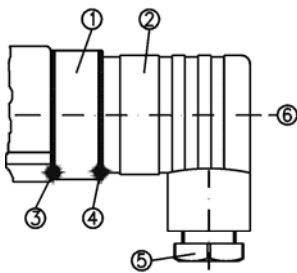

Fig. 7
- ⇒ Loosen the central screw (pos. 6) M3x35 and disconnect the junction box EN 175301-803-A (pos. 2) from the connector (pos. 1) (Fig. 7). Pull the central screw out of the junction box.